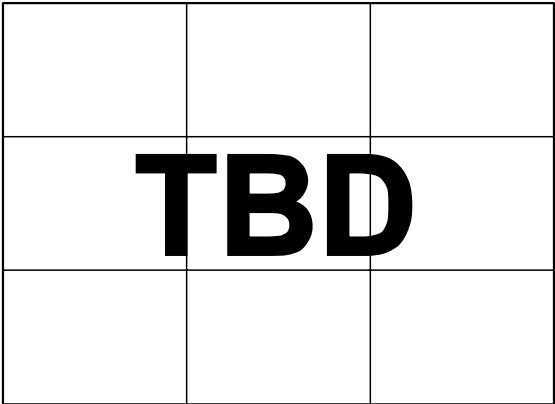

Figure 12. THD vs. Frequency
- For ac applications, the driver needs to have a THD performance suitable to that of the AD7946. Figure 12 gives the THD versus frequency that the driver should exceed.